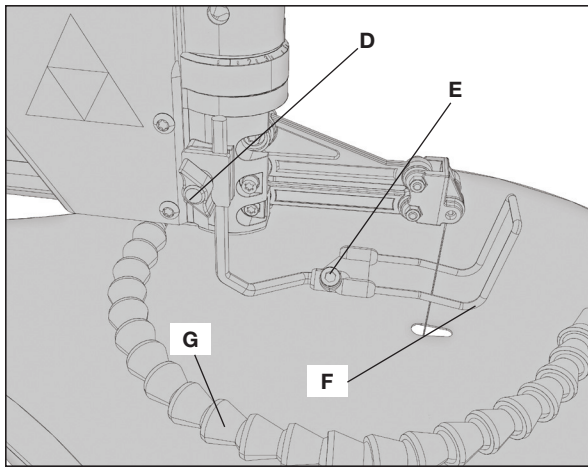

FIG. 9
The material hold-down (F) Fig. 9 should contact the surface of the workpiece. To adjust the material hold-down, loosen the thumbscrew (D) Fig. 9 and move the rod up or down.
The material hold-down must be beveled when the table is beveled. To bevel the material hold-down, loosen the hex screw (E) Fig. 9 and bevel the material hold-down until it is parallel to the table. Retighten the material hold-down before cutting.
Your scroll saw features an adjustable air (G) Fig. 9 hose to keep your work area free from dust and debris. Be sure to position the air hose properly: it should blow saw dust away from the operator.